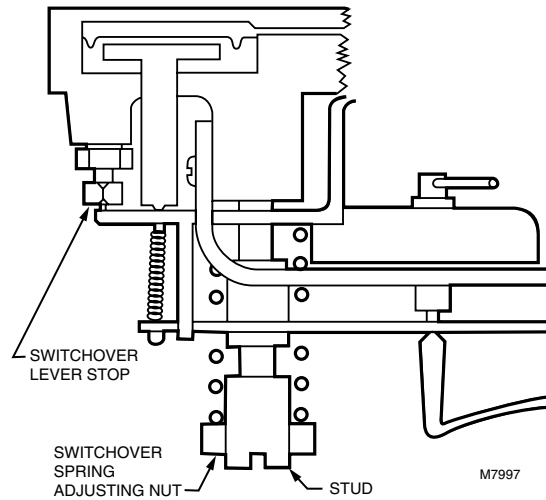

Fig. 22. The LP916B automatic switchover mechanism.
4. Adjust the switchover lever stop for 8 psi (55 kPa) branchline pressure. The LP916B1058 is 6 psi (41 kPa). See Fig. 22.
1. Back off the switchover spring adjusting nut until flush with the stud. See Fig. 22.